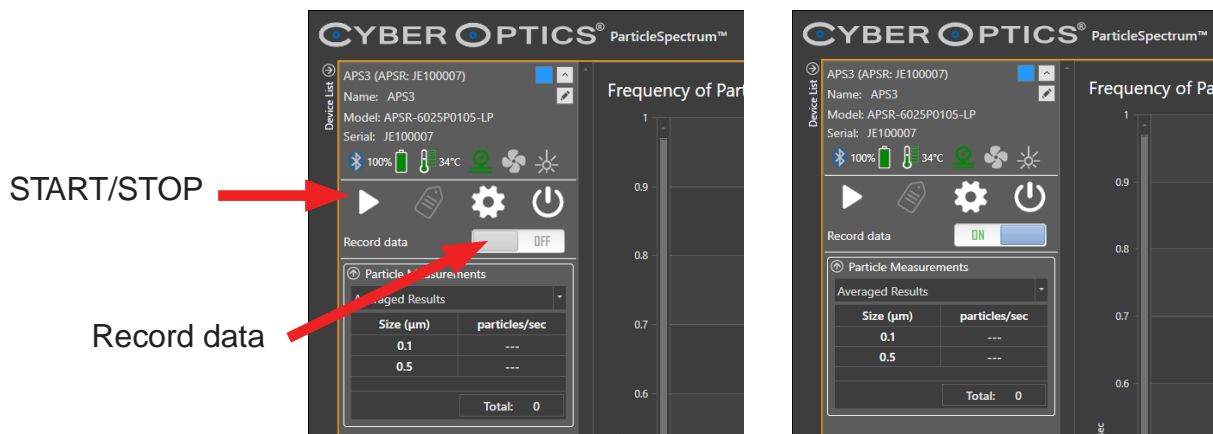

Figure 3.8: Recording Particle Measurement Data
2. To start recording, click **START**. The **START** button changes to **STOP**. ParticleSpectrum starts recording after the purge cycle is complete, or until you click **STOP**. See Figure 3.8.